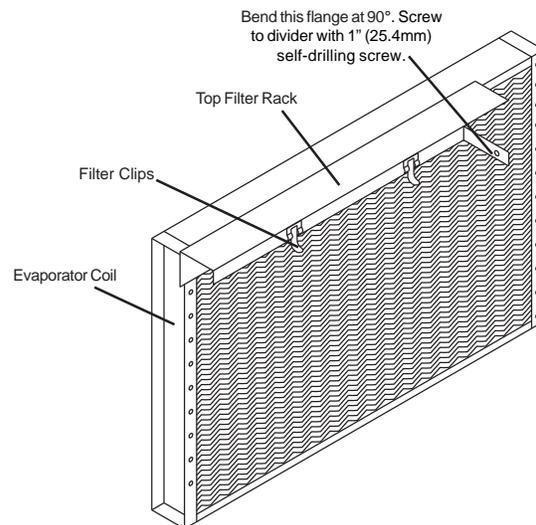

Fig. 1 - Top Filter Rack
4. Install the top filter rack in the HVAC unit next to the indoor coil. Bend flange by hand at 90 degrees - Fig.1. Screw left side of rack in to 4th hole down on coil frame. Use only 1/2" (12.7mm) long blunt end screws. Screw bent flange to unit side panel using 1" long self-drilling screw provided. If using 2" (50.8mm) filter the filter spacer must be removed.
14. Remove the filter access panel (horizontal return panel) and install disposable filters in filter rack behind filter clips. Fig. 1.